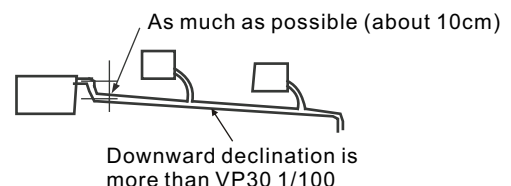

Figure 4.2 Centralized Drain
6) Follow Figure 4.2 for the piping when you install the drain pipe in the centralized way.